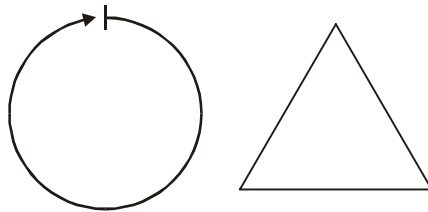

Figure 4-9
2. Figure 4-9 shows two simple obstacle courses. Write a program that will make your Boe-Bot navigate along each figure. Assume straight line distances (including the diameter of the circle) to be either 1 yd or 1 m.